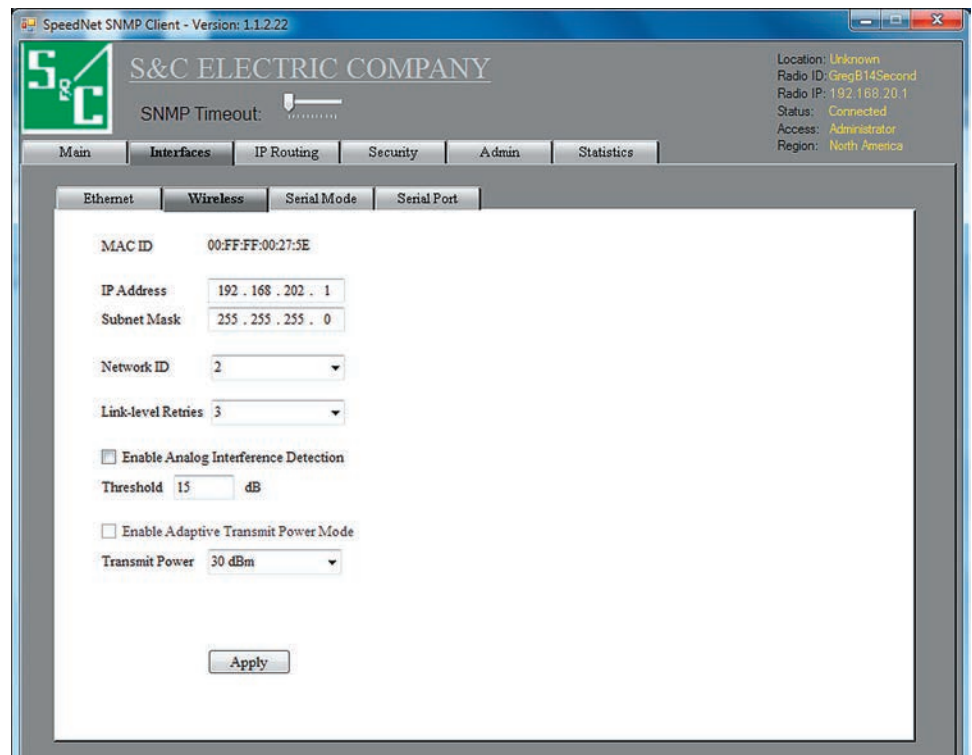

Figure 16. Wireless configuration dialog box.
STEP 14. The *Interfaces* screen will open. Click the **Wireless** tab. See Figure 16.